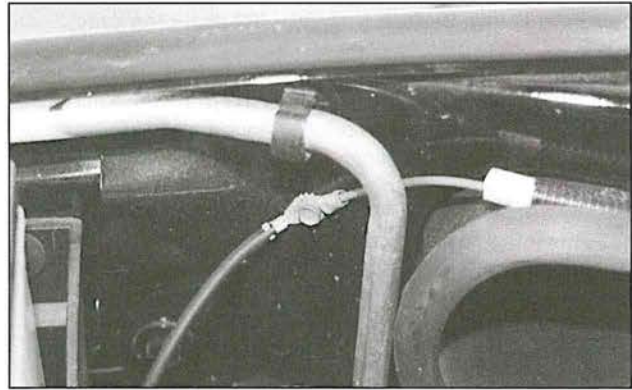

Fig. 21
- i. Route the green wire with the ring terminal under the air box intake to an existing sheet metal screw on the passenger side inner fender. Remove the sheet metal screw and reinstall with the ring terminal under the screw (Fig. 21).